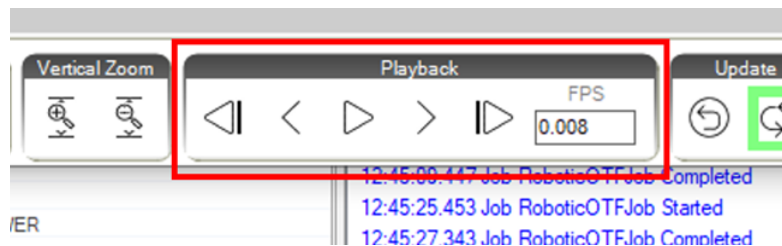

Figure 268: Timeline Playback Buttons
- Playback - The Playback buttons allow users to start a process play through or step through the process visualization. The speed for which the play through occurs is based on the defined FPS value. See Figure 268 (below).